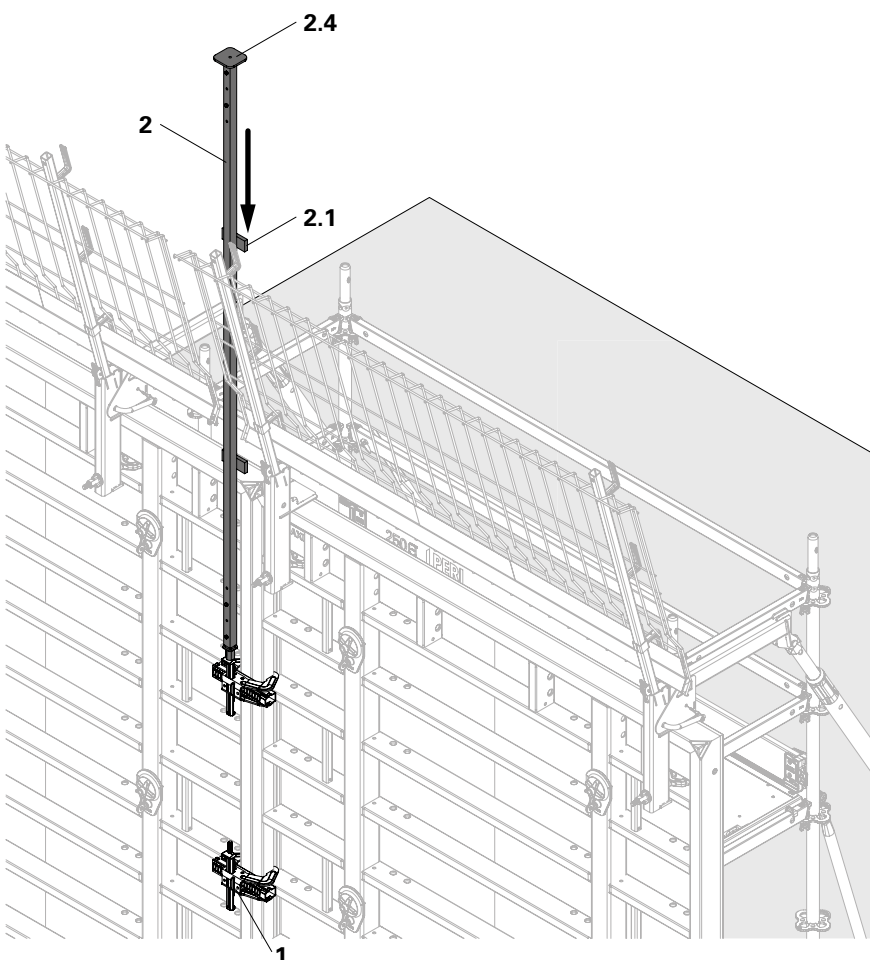

Fig. A3.06
- Installation sequence of element connection locks from bottom to top. (Fig. A3.06)